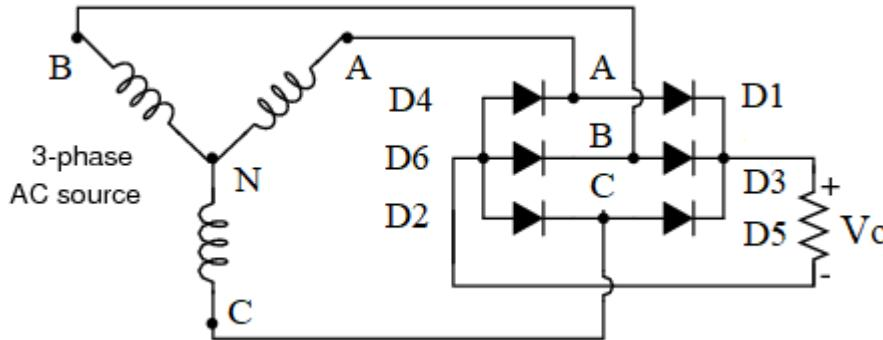

FIGURE 2.34
- This can be clearly understood from Fig. 2.34 where the diode bridge has been redrawn horizontally. Right hand side diodes D_1 , D_3 & D_5 form a +ve OR gate in which the most positive voltage of phases A, B or C appears at the positive load terminal. Similarly, left hand side diodes D_4 , D_6 & D_2 form a -ve OR gate in which the most negative voltage of phases A, B or C appears at the negative load terminal. Thus the largest of the 6 line-to-line voltages $v_{AB}(t)$, $v_{AC}(t)$, $v_{BC}(t)$, $v_{BA}(t)$, $v_{CA}(t)$ or $v_{CB}(t)$, at any instant, appears across the load.